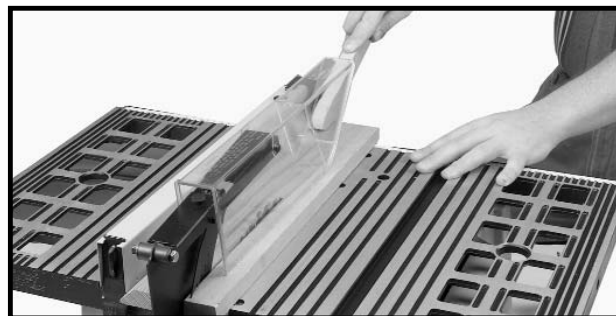

Fig. 44
- If the ripped work is less than 6 inches wide, a push stick should always be used to complete the feed, as shown in Fig. 44. The push stick can easily be made from scrap material as explained in the section **“CONSTRUCTING A PUSH STICK.”**